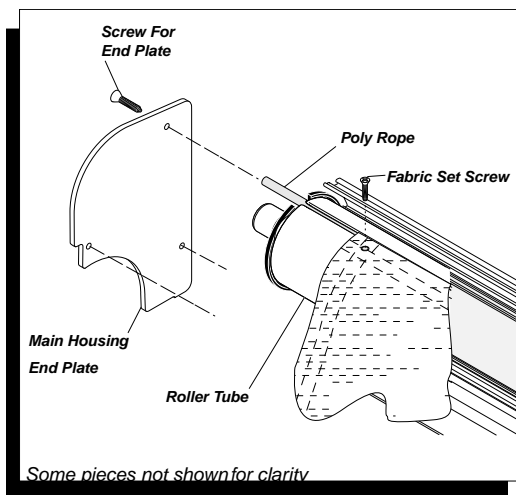

FIGURE 14
- 2) Remove the (4) four fabric set screws (two are located on the lead rail and two are located on the roller tube. see Figure 14 & 15)
- 5) Slowly begin to roll the fabric up, onto the roller tube, using the manual crank. (The motor limit switches will have to be used, and adjusted if no manual crank is available). Roll the fabric from the bottom of the roller tube. (See Figure 14)
- 2) Remove the (4) four fabric set screws (two are located on lead rail two are on the roller tube.)
- 3) Remove both lead rail end caps and awning end caps. (See Figure 14 and 15) Using two people, carefully slide the entire fabric out from the left end of the roller tube (make sure the Poly rope clears the support bracket for the roller tube) and from the end of the lead rail. Remove both Poly ropes from the forward and rear hems of the old fabric. This will be used on the new fabric installation.
- 1) Insert one of the (2) larger Poly ropes (that was removed from the old fabric) into the front hem of the new fabric. Carefully unroll the new fabric, and insert the second larger Poly rope (that was also removed from the old fabric) into the rear hem of the new fabric. This end will be mounted into the roller tube.
- 4) Center the fabric on the roller tube, and square up fabric assembly at lead rail, i.e., remove wrinkles. The fabric will self-center on the lead rail. Insert self tapping screws on both ends of the fabric into roller tube (see Figure 14)